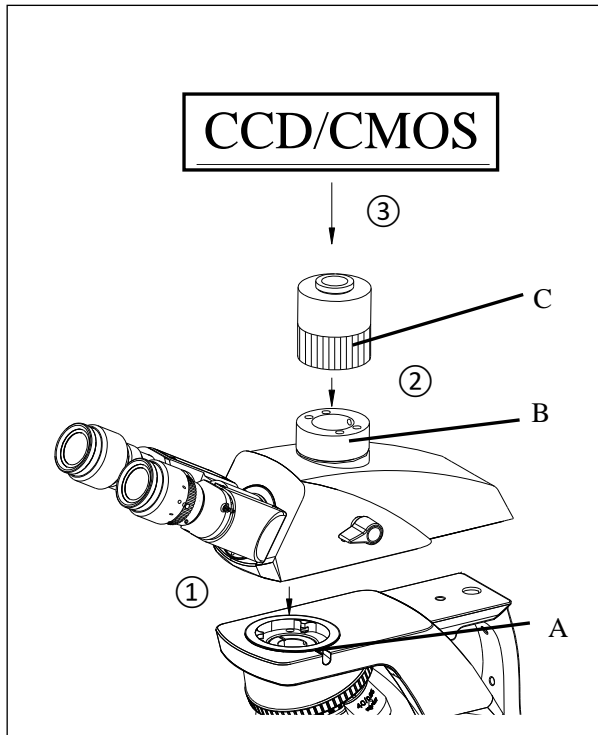

Fig.28
#### 4.1 Installing Trinocular Viewing Head And Video Attachment (Fig.28)
1. Mount the trinocular viewing head according to the assembly path ① in Fig.28 into the round dovetail of the microscope and tighten the screw in A position to fix the viewing head;
2. Mount the video attachment according to the assembly path ② into the connecting seat of the trinocular viewing head and tighten the screw in B position;
3. Mount the thread interface of CCD or CMOS according to the path ③ into the video attachment.